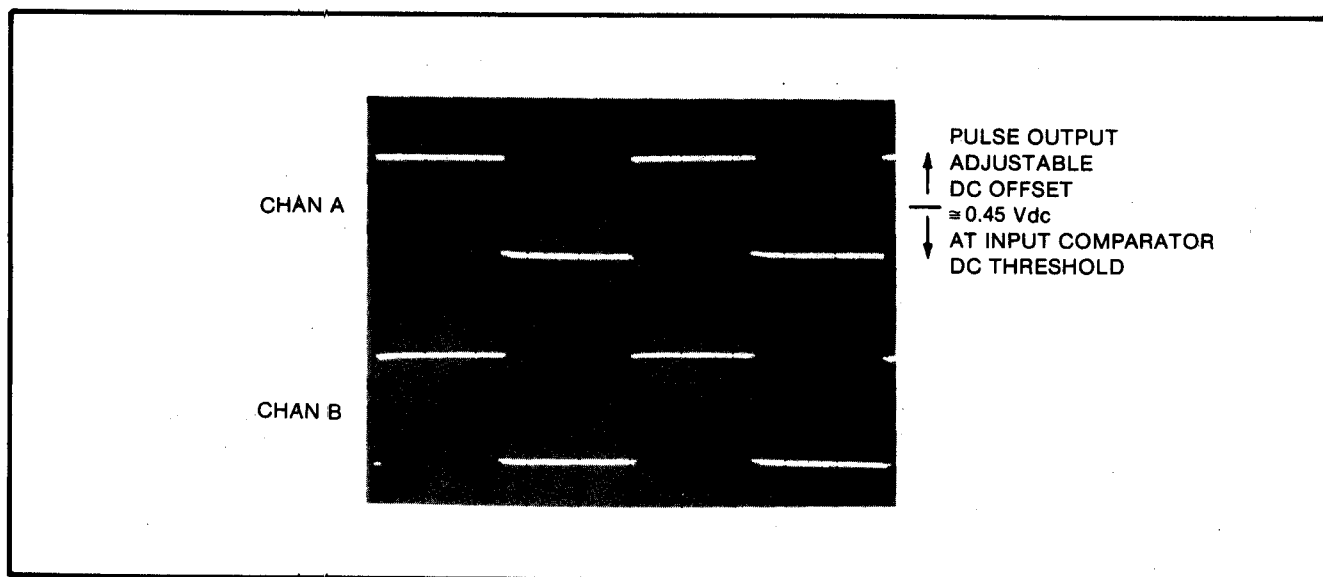
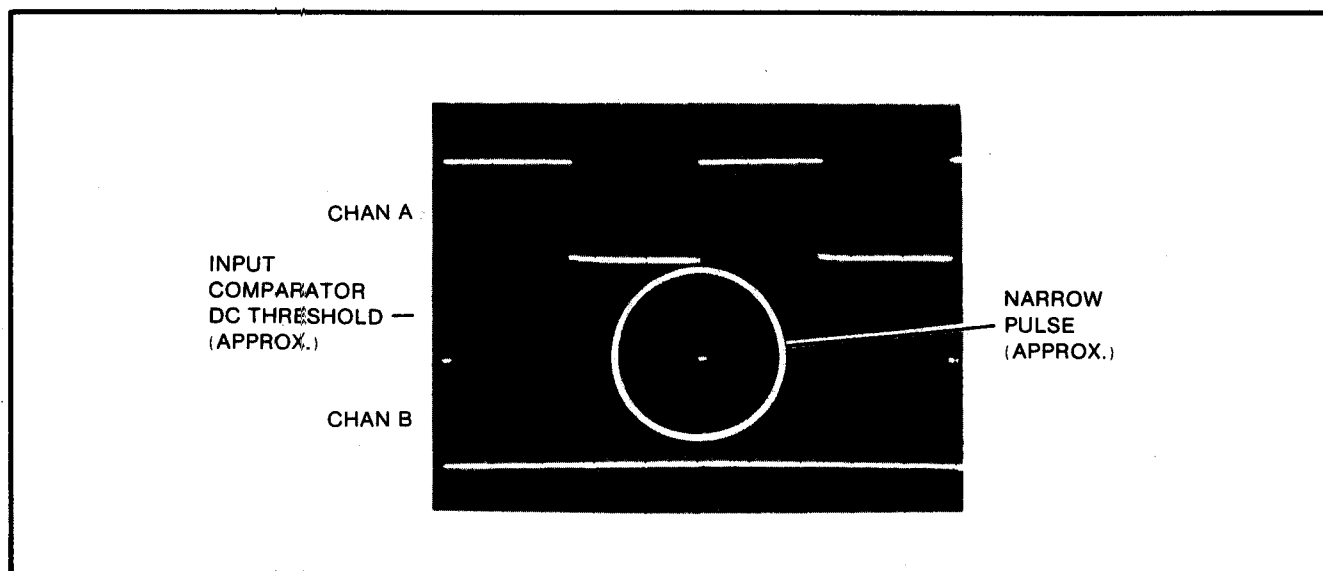
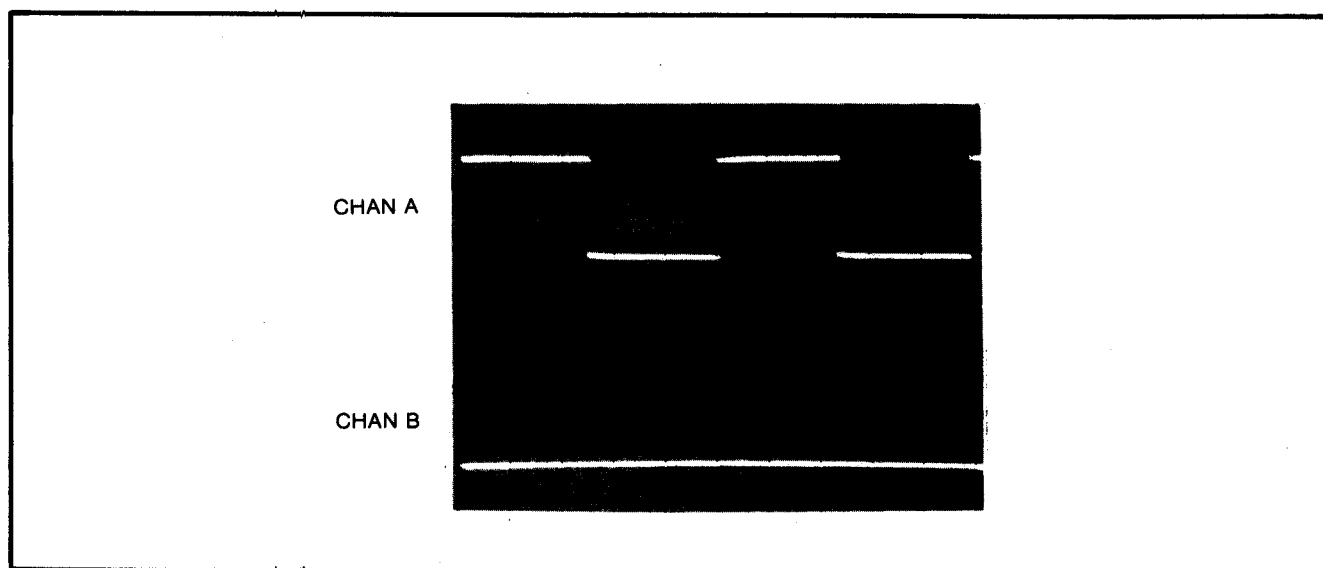

Figure 5-4. Voltage Comparator Triggering
Figure 5-5. Proper Compensation (Intermittent)
Figure 5-6. Narrow Pulse Tuned Out
g. Begin with the Pulse Generator OFFSET VERNIER set to the fully negative position. Due to the hysteresis of the comparator circuitry, it is important for the input voltages to approach the trigger level from the negative direction. Using the OFFSET VERNIER, slowly raise the DC offset of the input signal until the voltage comparator output (U21 pin 10), displayed on Channel B of the oscilloscope, triggers as shown in Figure 5-4. The Channel A POSN (position) control should be readjusted as needed to return the input waveform to the display. Using the OFFSET VERNIER, decrease the DC offset slightly, and slowly increase it again until it just begins to trigger.
h. If the comparator circuit is properly compensated, the comparator output squarewave will "snap in" on Channel B (*Figure 5-4*). If the comparator circuit is uncompensated, the voltage comparator output will be displayed as a narrow pulse on Channel B (see *Figure 5-5*). Adjust A1C33 in the 5006A until the narrow pulse is tuned out as shown in *Figure 5-6*.